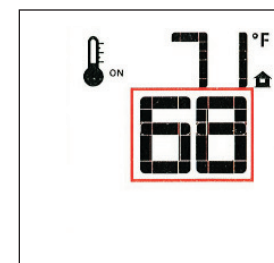

Figure 49. Change Set Temperature
- To adjust the Set Temperature, press the Up or Down Arrow Keys until the desired Set Temperature is displayed. Fig. 49.